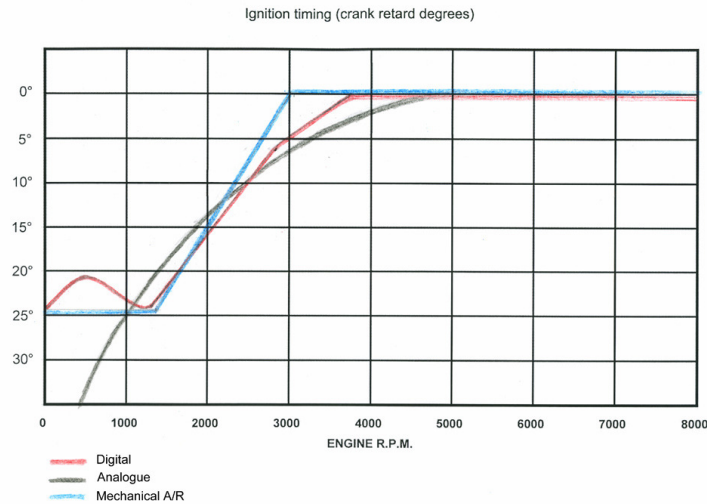

Fig 5. Ignition advance with mechanical and EI systems
The latest digital electronic ignition (EI) systems are a close match to the original points and mechanical A/R systems. Advance curves for some specific models have been developed and are ‘downloaded’ to digital systems with the intention of making improvements over the original mechanical system. They can also incorporate an ‘idle stabilisation’ option (included in the digital curve drawn in fig. 5) which introduces a reverse slope at idle speeds.
The big problem arises with the older analogue systems. As can be seen in Fig 5, the slope continues to retard the ignition timing throughout the idle speed range. Note the engine (any engine) at idle speeds will slow down as the ignition timing is retarded. Consequently if the engine is even faintly inconsistent or unstable and as a consequence slows slightly while idling, the ignition retards and slows the engine down further. This problem is more apparent on a tuned single cylinder engine (such as my 250cc B25 Starfire) than it is on engines with multiple cylinders.